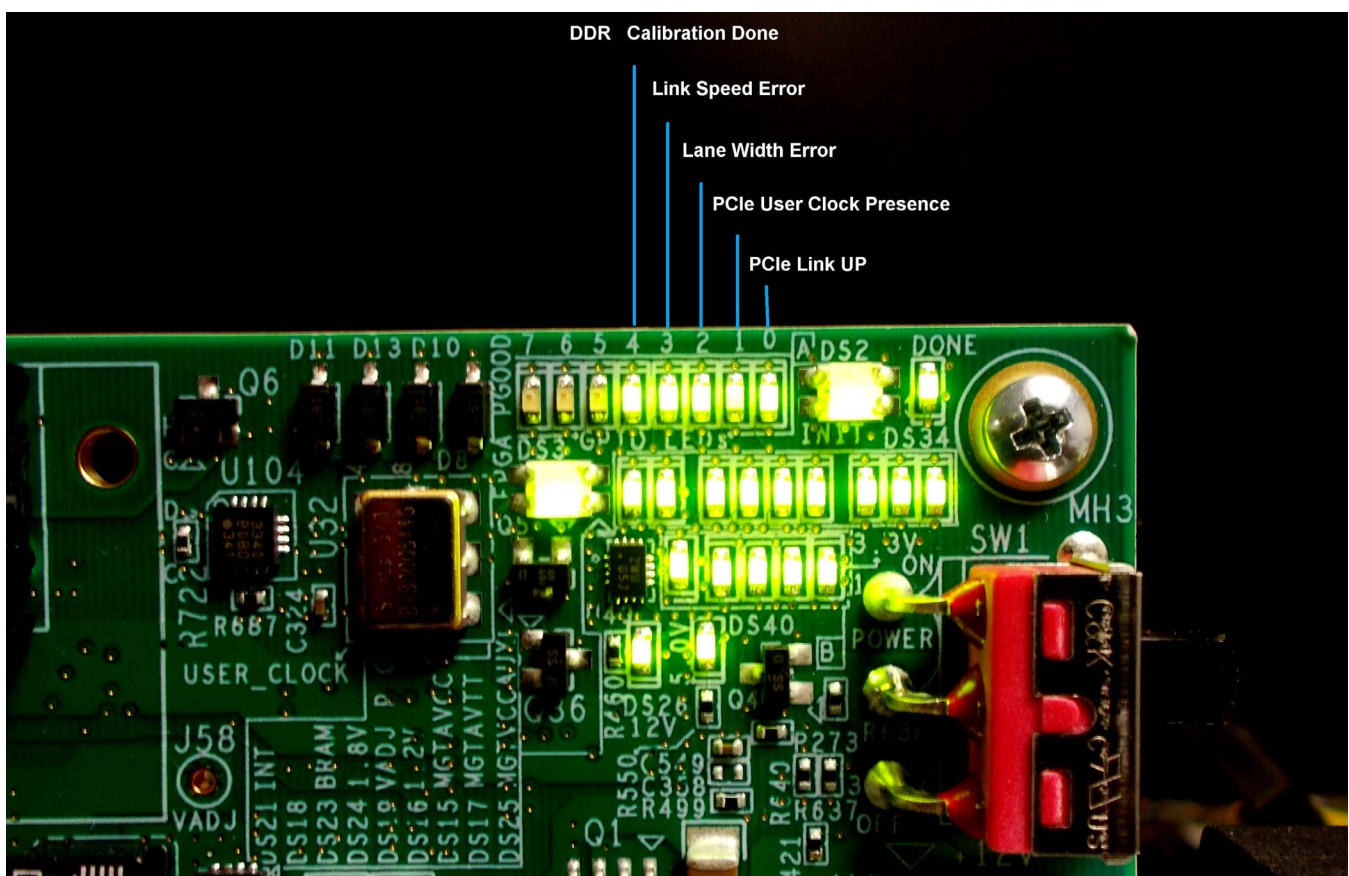

Figure 3-8: GPIO LED Indicators
5. Check the status of the design by observing the GPIO LEDs positioned at the top right corner of the KCU105 board (see Figure 3-8). After FPGA configuration, the LED status from left to right indicate